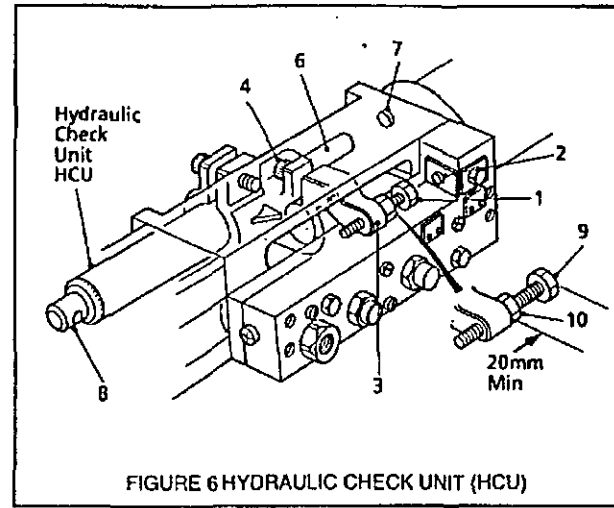

FIGURE 6 HYDRAULIC CHECK UNIT (HCU)
SETTING DRILLING OPERATION (See Figure 6)
Use Figure 6 (9) for the final depth adjustment. Lock using Figure 6 (10).
The end of the tap **MUST** be at least 14mm (9/16in) above the test block, to allow for the tapping head reversing engagement travel. Set the gap between Figure 6 (2) and (1) to equal the tapping depth **PLUS** the distance the tap is above the work piece.